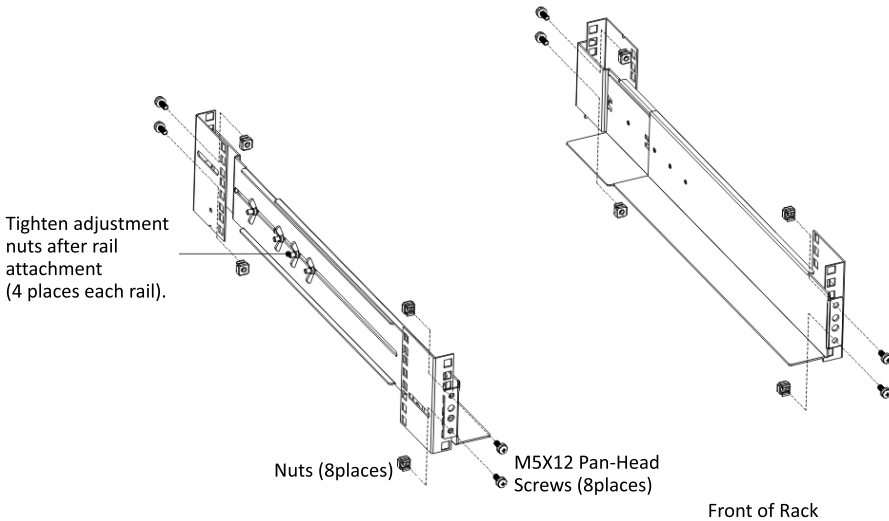

FIG. 3 Fixing the Rails
2. Select the proper size in the rack for positioning the UPS (see FIG. 3). The rail occupies four positions on the front and rear of the rack.